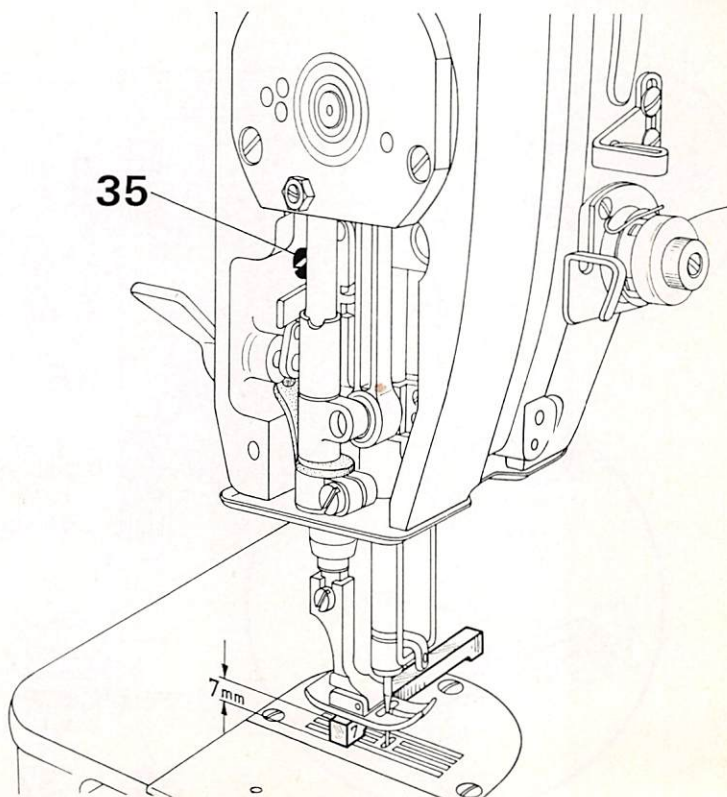

Fig. 16
13. Setting the Presser Foot at the Correct Height (Fig. 16)